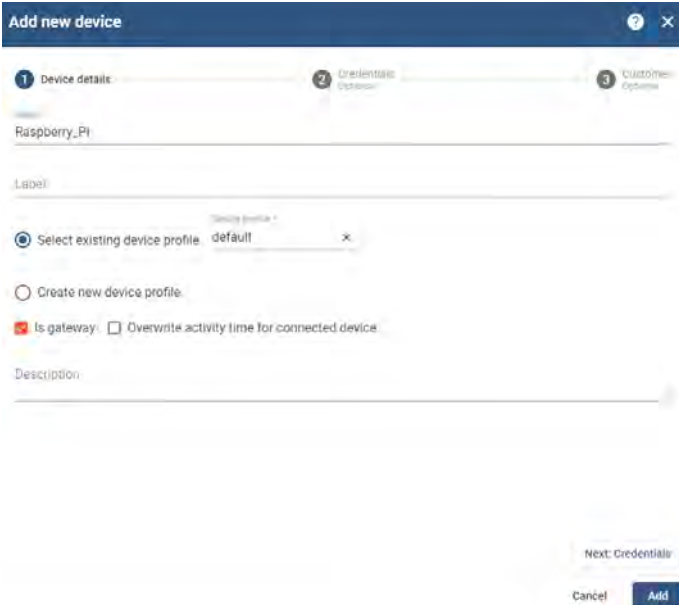

Figure 3.1: Adding New Device
5. Then, configure your device as gateway as seen in Figure 3.1.